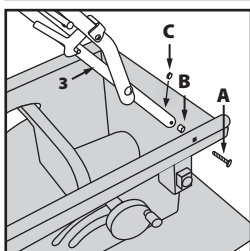

Fig. 7
- Attach component **4** to the machine body, through component **1**, using fixings **A, B & C** from **BAG 1**. Do not over tighten. (Fig 7)